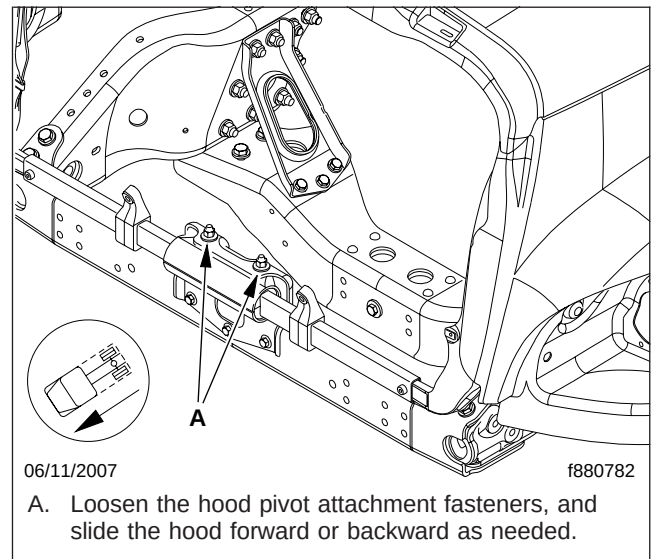

Fig. 6, Hood Adjustment at Hood Pivot
4. If the hood needs to be moved forward or backward, loosen the fasteners that attach the hood pivot bracket to the hood hinge; see **Fig. 6**. Move the hood forward or back as needed, and tighten the fasteners.